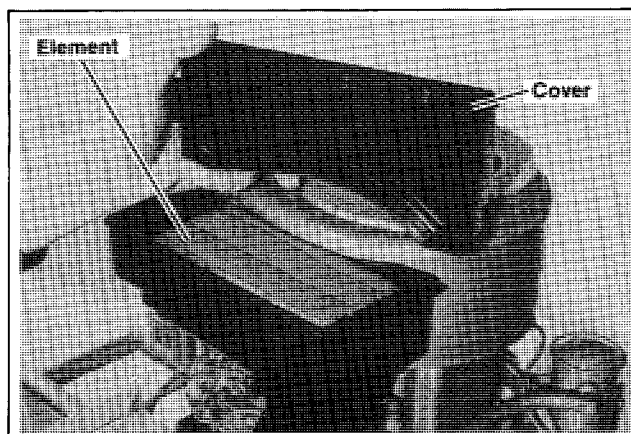

Figure 6. Air Cleaner Service
1. Unsnap air cleaner cover. Figure 6.